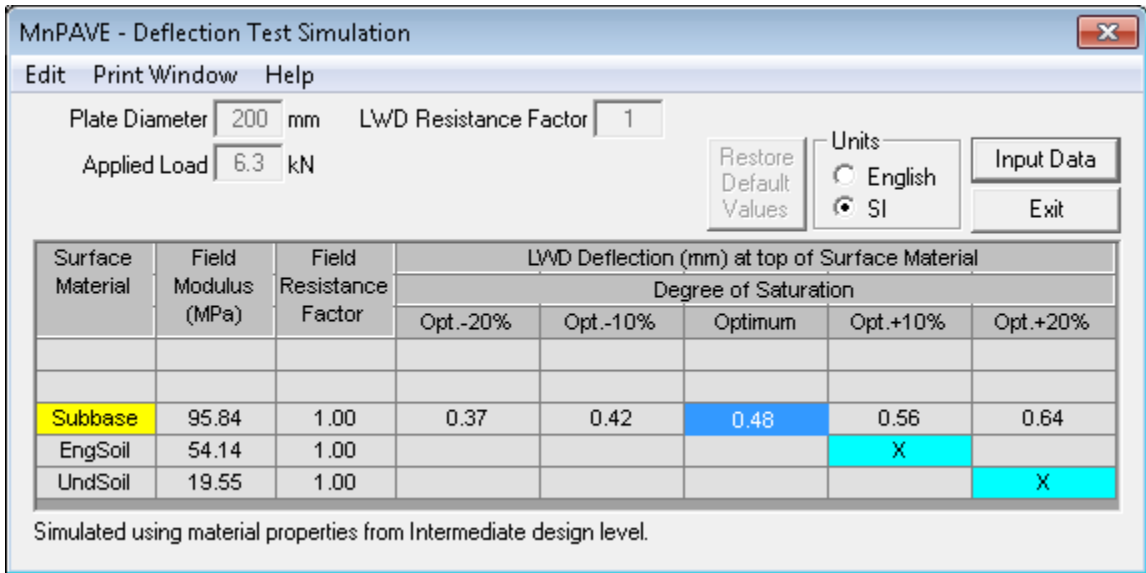

Figure 5 Estimated Target Values for Subbase
- Click **Calculate**. If no deflection value was entered, the **Field Modulus** value will be estimated from the design modulus values in MnPAVE and the **Field Resistance Factor** will be 1.0. Otherwise, these values will be estimated from the deflection value. The **Field Resistance Factor** is a value that is multiplied by the **LWD Resistance Factor** and the device-generated modulus in order to estimate the MnPAVE design modulus. The target deflection values for each moisture condition of the surface layer will also be estimated. If the **LWD Resistance Factor** is correct, the estimated deflections should indicate the target deflections for 95% to 110% standard Proctor maximum density (see Figure 5).